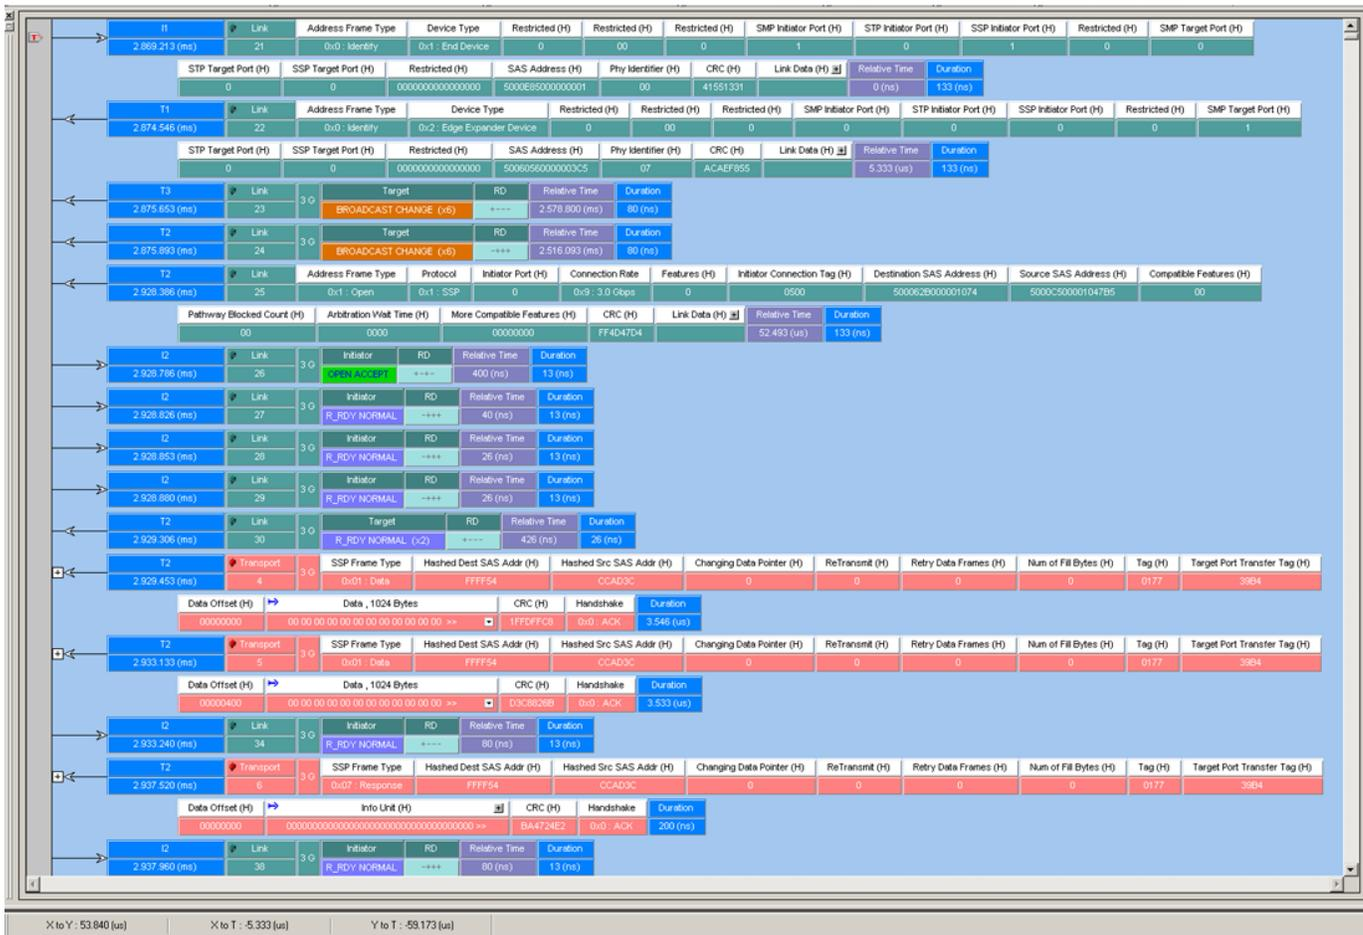

Figure 2.15: SAS: Analyzer Trace Capture Display
5. After the project runs, you see an analyzer trace capture display similar to the one shown in Figure 2.15 on page 54